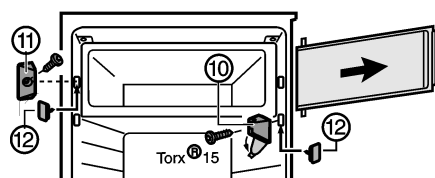

Fig. 6 *
- Fold away the cover of the turn hinge Fig. 6 (10)*
- Unscrew turn hinge Fig. 6 (10) together with compartment door.*
- Unscrew closing element Fig. 6 (11)*
- Close the vacated holes using the accompanying cover Fig. 6 (12)*